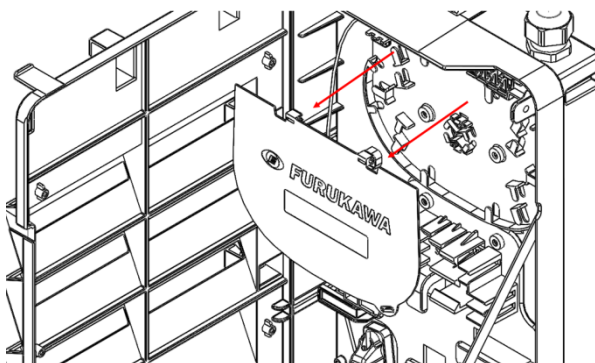

Figure 17
1.5.3 Remove the splice tray cover (Fig. 17);